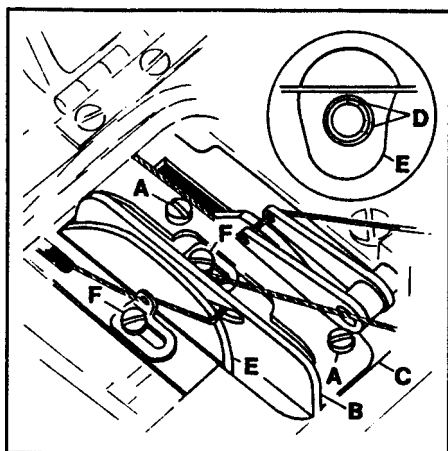

FIG. 34
Loosen screws (A, Fig. 34) and position looper thread cast-off (B) flush with the right end of cast-off support plate (C). Tighten screws (A). Loosen screws (D, Fig. 34 inset) and time take-up (E) so the thread will cast-off when the needle bar has descended $7/64$ " (2.8mm) from its highest position. When thread eyelets (F) are moved further to the left the amount of thread pull-off will increase.